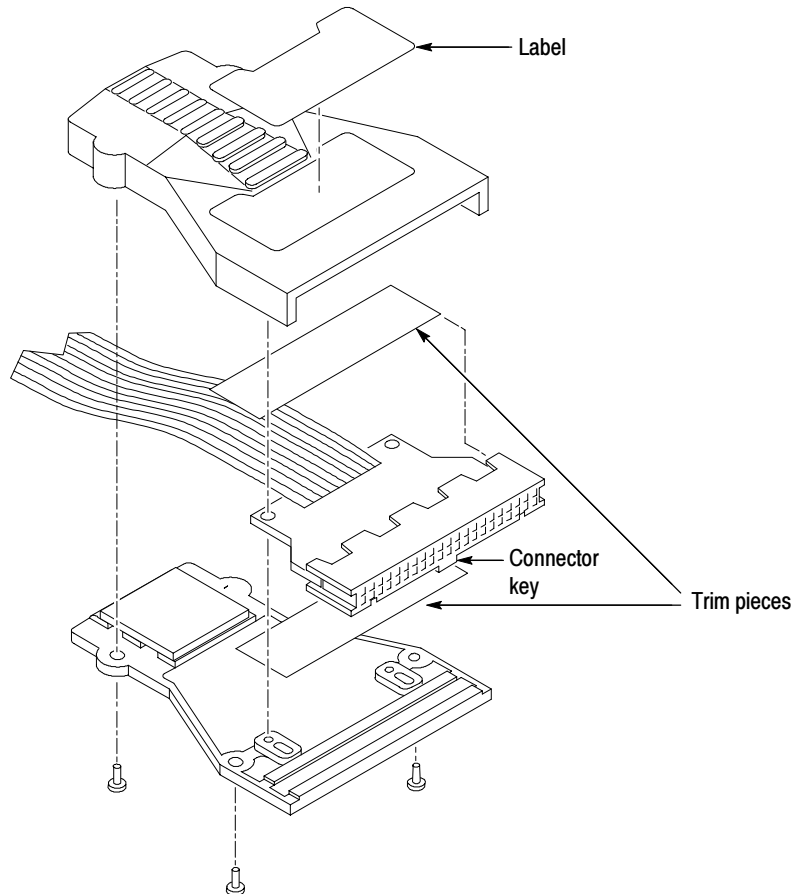

Figure 32: Reassembling the module end
2. On the module end, position the trim pieces in the connector housing as shown in Figure 32.
4. Attach the case halves and reconnect the screws as shown in Figure 32.